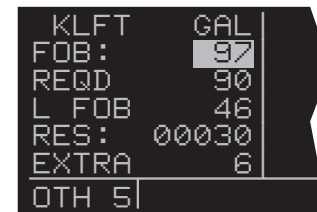

Figure 5-125
3. Enter the current fuel on board (FOB) using the left inner knob (figure 5-125). Make sure the amount entered is consistent with the units used by the fuel flow computer.